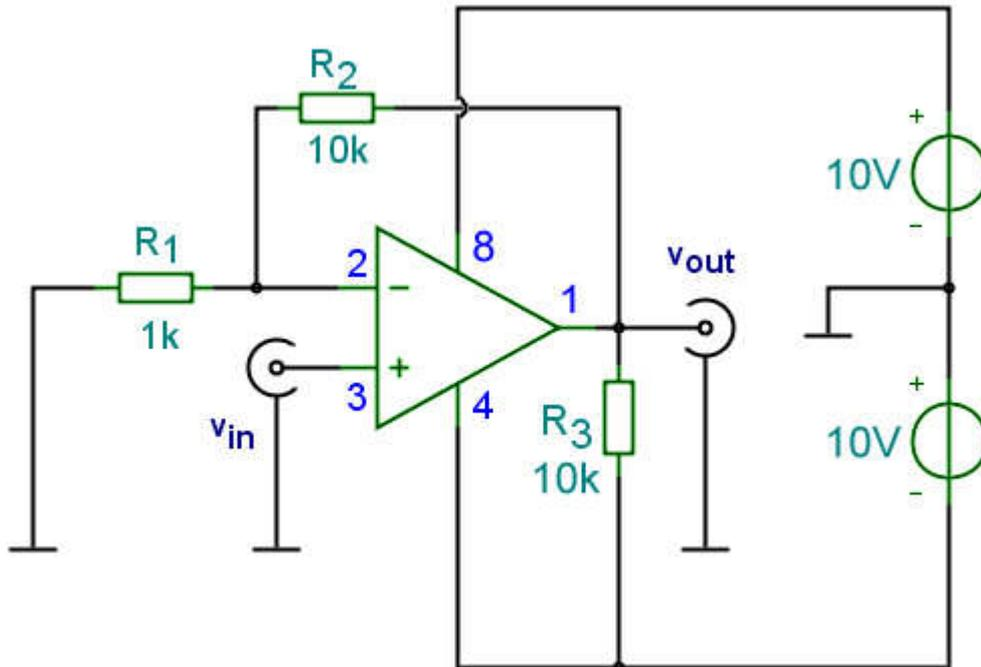

Figure 5.2 Non-inverting amplifier circuit
5.2.1 Modify the circuit from the previous exercise by connecting the previous input to ground and connecting the non-inverting input to the V_{in} as seen on figure 5.2. This means only exchanging two wires on the breadboard.